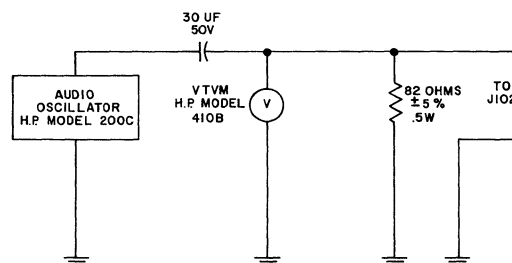

Figure 2-3. Dummy Microphone Circuit, Schematic Diagram
b. Connect the vtm and audio oscillator to the dummy microphone as illustrated in figure 2-3. Adjust the audio oscillator to 0.25 volt a-c at 1000 cps.